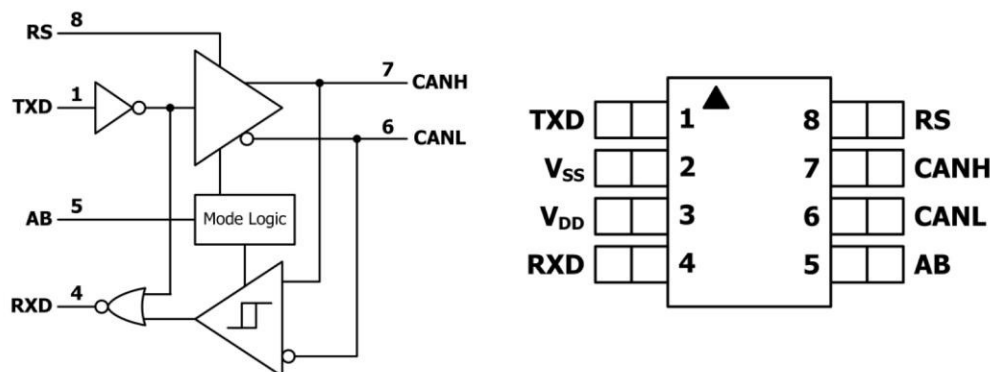

Figure 3: UT64CAN3332 (Auto-Baud Loopback)
- Loopback for auto-baud mode (Figure 3)
The UT64CAN3332, Figure 3, provides the option to automatically synchronize the baud rate of the transceiver by matching the bit timing to the traffic on the bus. The Auto Baud Loopback mode is enabled when the AB pin is biased $\geq V_{IH}$. Auto Baud Loopback mode is disabled when the AB pin is biased $\leq V_{IL}$. In the Auto-Baud mode, the CANH/CANL output is placed in the recessive mode.